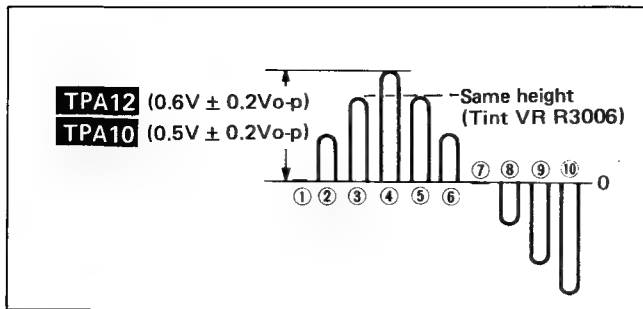

Fig. 32
- 3) Connect an oscilloscope between **TPA12** (B-Output) and chassis GND. When confirm that the waveform level is $0.6V \pm 0.2V_{o-p}$ on the oscilloscope as shown in Fig. 32.
When confirm that the waveform level is $0.5V \pm 0.2V_{o-p}$ on the oscilloscope as shown in Fig. 32.
- 6) Turn Tint control (R3006) and confirm that the variable range is more than 60° as shown in Fig. 32.